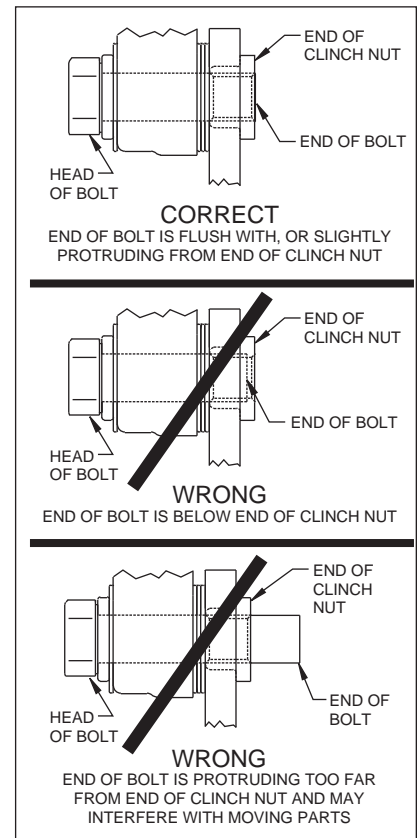

Figure 4. Clinch Nut Engagement Diagram
- Pack the small outer bearing cone (14) with high temperature disc brake bearing grease and install into front of hub (7). Slide the hub/rotor assembly (7 and 11) with outer bearing cone (14) onto the spindle. Secure using stock washer, adjusting nut and nut locking device. Adjust bearings per Original Equipment Manufacturer (OEM) specifications.
- Install the dust cap (15) onto the hub (7). Friction created by the o-ring (16) on the dust cap (15) keeps it from unscrewing. The O.D. of the existing spindle washer may be larger than the I.D. of the dust cap (15) not allowing it to seat against the hub face. Some grinding on the washer O.D. may be necessary to clear the I.D. of the dust cap (15).
- NOTE:** Please reference the caution statement at the beginning of the assembly instructions. Mount the caliper (17) onto the caliper bracket (1) using washers (18) and bolts (19). Finger tighten. View the rotor (11) through the top opening of the caliper (17). The rotor (11) should be aligned in the center of the caliper (17). If not, adjust the caliper (17) by using 0.032 inch thick shims (20) placed between the caliper mounting bracket (1) and the caliper (17). Finger tighten and recheck alignment. Use as many shim washers (20) as necessary to achieve the correct alignment. Add as many shim washers (20) as necessary to achieve the correct alignment. **NOTE:** The end of the bolt must be flush with or slightly protruding from the head of the clinch nut. See Figure 4. Place spare shims (20) between washer and caliper mounting ear to achieve the proper mounting fastener configuration. Always use the same amount of shims on both the top and bottom caliper mounting bolts (19). Apply red Loctite® 271 to bolt threads (19) and torque to 40 ft-lb. Caliper mount bolts may be safety wired for additional security.
- Install the disc brake pads (21) and secure using cotter pin (22).